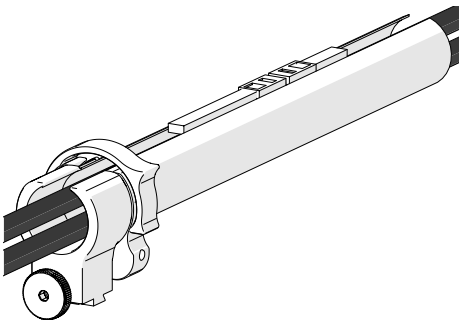

Fig. 152 - Zip opposite end
3. Once the cable is placed the entire length of tube, bring the zipper from the tubes opposite end, meeting at any point in the middle (*Fig. 152*).